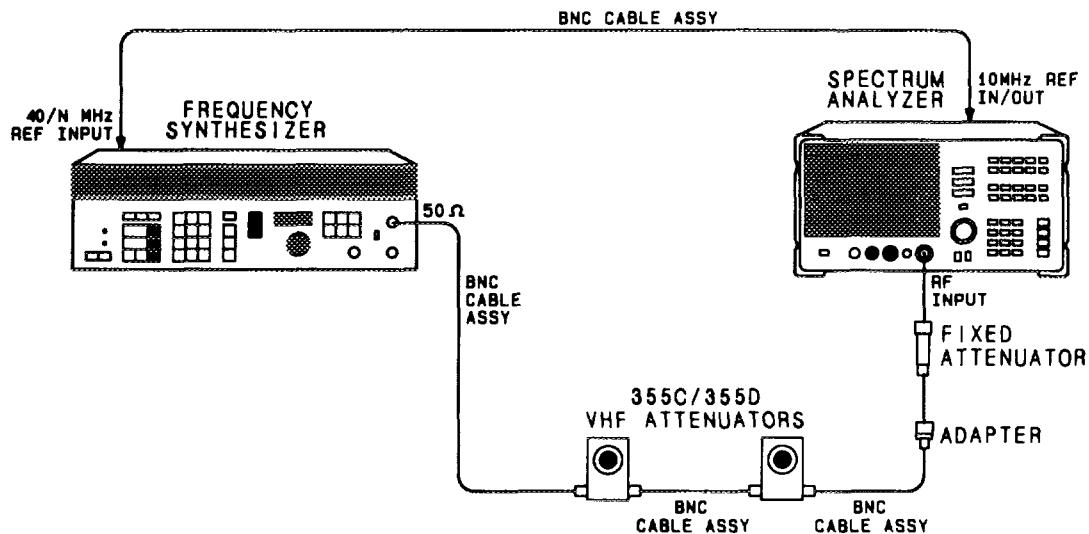

Figure 3-8. IF Gain Uncertainty Test Setup
1. Connect the equipment as shown in Figure 3-8. The HP 8562A/B provides the frequency reference for the HP 3335A.